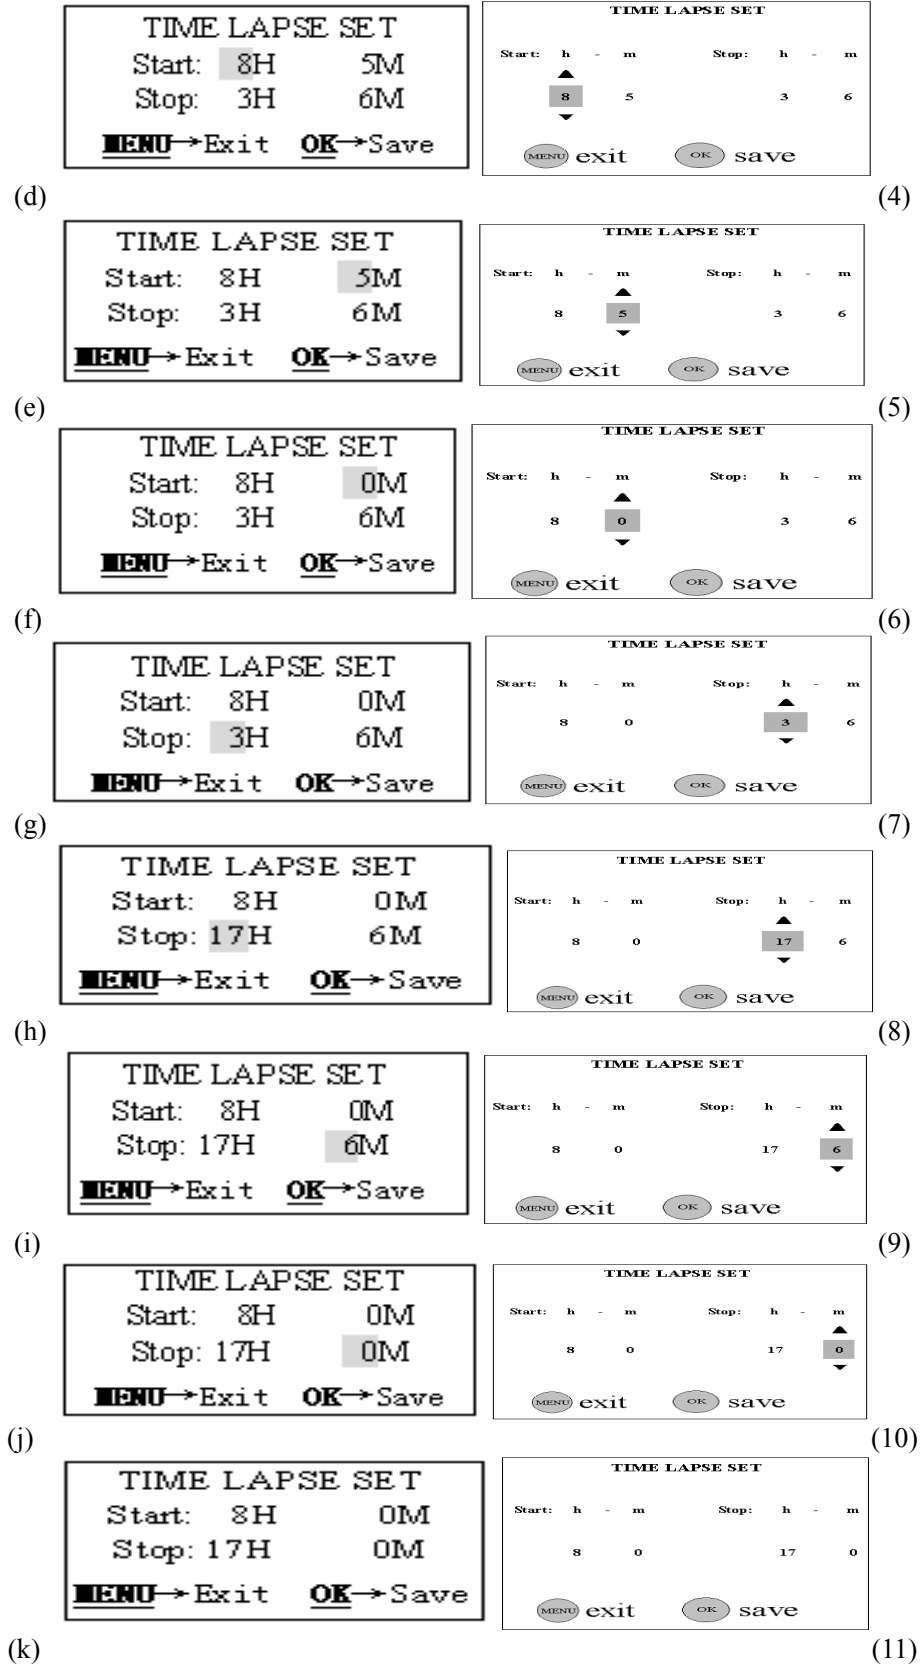

Figure 15: Setting timer
- 1 In MENU, press the UP or DOWN key until Timer Switch appears, as shown in Fig. 15(a) and 15(1).
- 2 Press the RIGHT key to switch between On and Off of this function, as shown in Fig. 15(b) and 15(2).
- 3 Press the OK key to enter the setting of the Start time. The hour of Start time will be highlighted, as shown in Fig. 15(c) and 14(3).
- 4 Press the UP or DOWN key until desired hour appears, as shown in Fig. 15(d) and 15(4).
- 5 Press the RIGHT key to set minute of the Start time. The minute of Start time will be highlighted, as shown in Fig. 15(e) and 15(5).
- 6 Press the UP or DOWN key until the desired minute appears, as shown in Fig. 15(f) and 15(6).
- 7 Press the RIGHT key to set the hour of the Stop time. The hour of the Stop time will be highlighted, as shown in Fig. 15(g) and 15(7).
- 8 Press the UP or DOWN key until the desired hour of the Stop time appears, as shown in Fig. 15(h) and 15(8).
- 9 Press the RIGHT key to set the minute of the Stop time. The minute of the Stop time will be highlighted, as shown in Fig. 15(i) and 15(9).
- 10 Press the UP or DOWN key until the desired minute of the Stop time appears, as shown in Fig. 15(j) and 15(10).
- 11 Press the OK key to save or press the MENU key to cancel and exit. After pressing the OK key, the selected value will no longer be highlighted, as shown in Fig. 15(k) and 15(11).